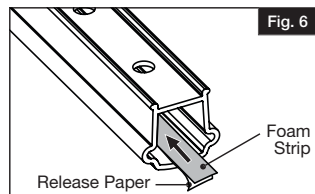

Fig. 6
- Prior to installing round aluminum balusters, insert the provided foam strips into the top of the top rail and bottom of the bottom rails (sides opposite of routed holes). Cut to rail length. Then, remove 1" of the release paper from each end to expose adhesive (Fig. 6). Press fit the foam strips to rails (Fig. 7). DO NOT remove the release paper from entire strip – Only remove 1" from each end.